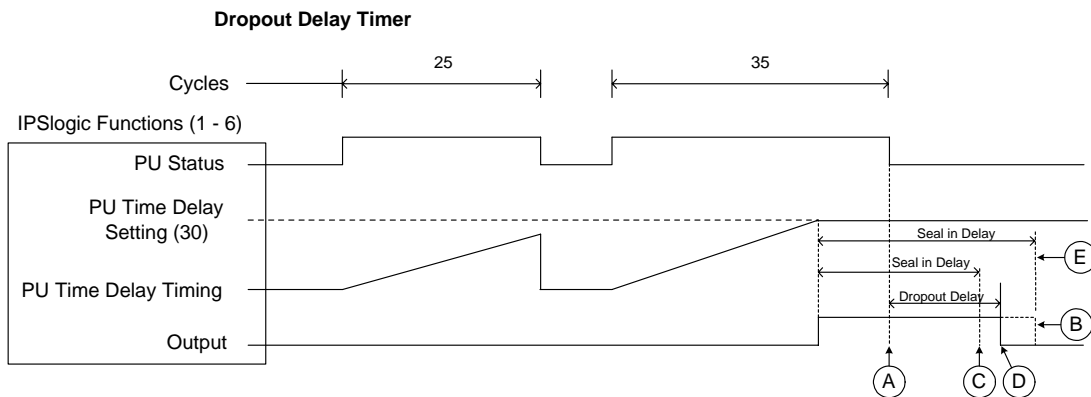

Figure 4-101 Dropout Delay Timer Logic Diagram
The Dropout Delay Timer logic is presented in Figure 4-101. The Dropout Delay Timer feature allows the user to affect an output time delay that starts when the ISSLogic PU Status drops out (A) and can hold the Output (D) status true beyond the Output Seal In Delay value (C).